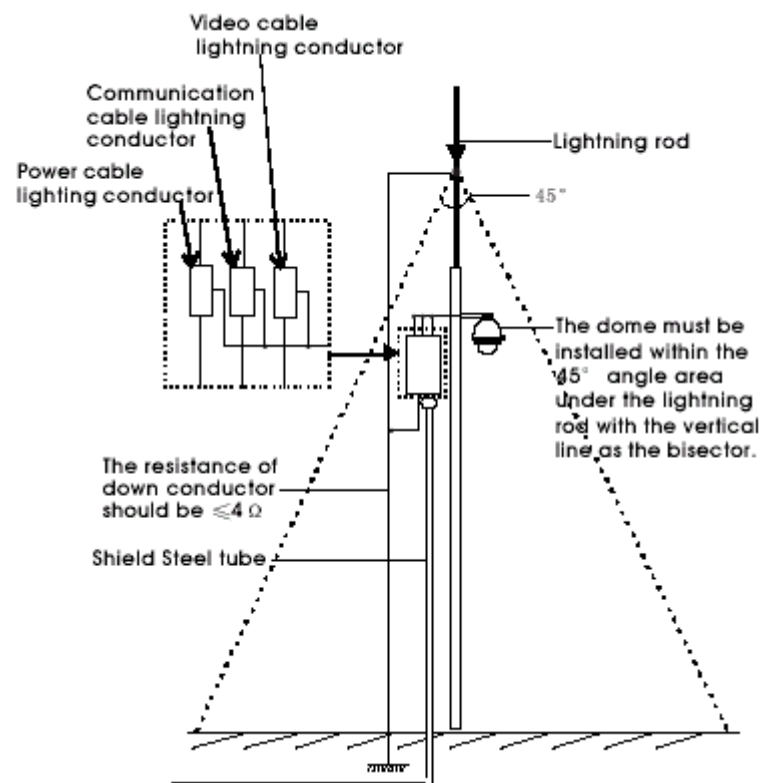

Figure 26
- The system must be grounded with equal potentials. The earth ground connection must satisfy anti-interference and electrical safety requirements and must not short circuit the high voltage electricity network. When the system is grounded separately, the resistance of the down conductor should be  $\leq 4 \Omega$  and the sectional size of the down conductor should be  $\leq 25\text{mm}^2$  (refer to Fig 26).